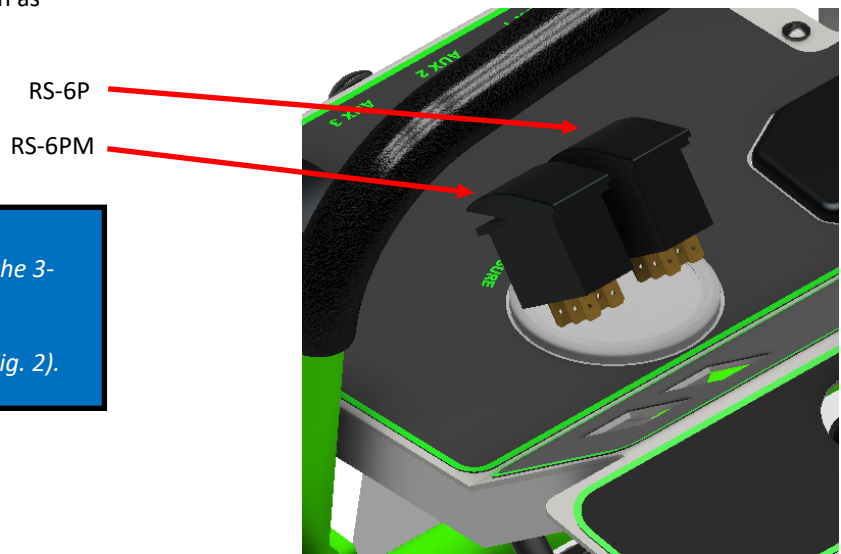

Fig. 1
- The 2-way switch goes on the right and the 3-way on the left (Fig. 1).
- Disconnect the switch block from the pump switch & (Fig. 1) connect the power plug from the harness to the pump switch terminal block.
**PUMP SWITCH BLOCK Fig 1**